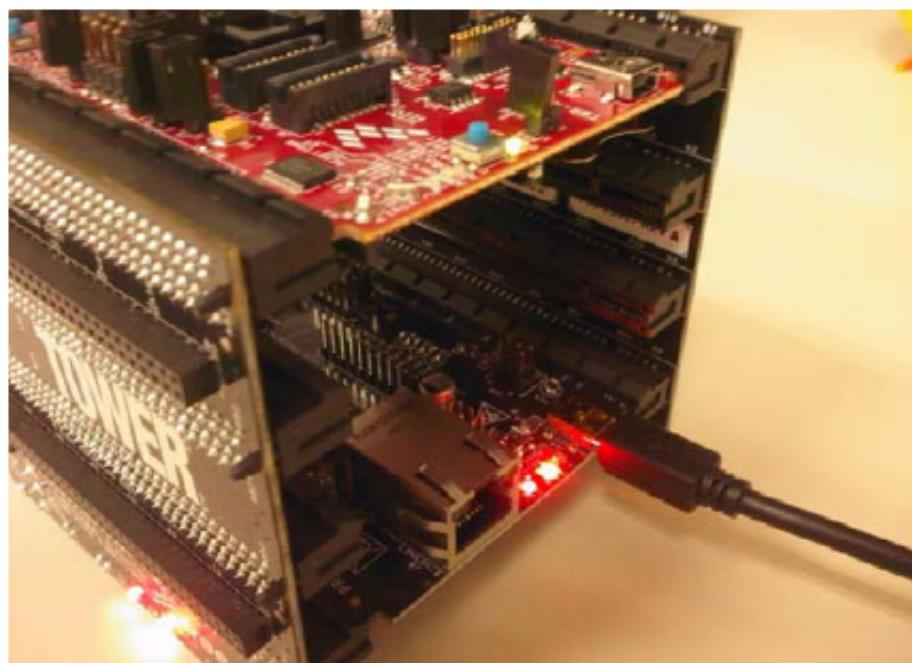

Figure 22. Connecting TWR-SER USB cable
1. Connect the USB cable to the TWR-SER board as shown in Figure 22.